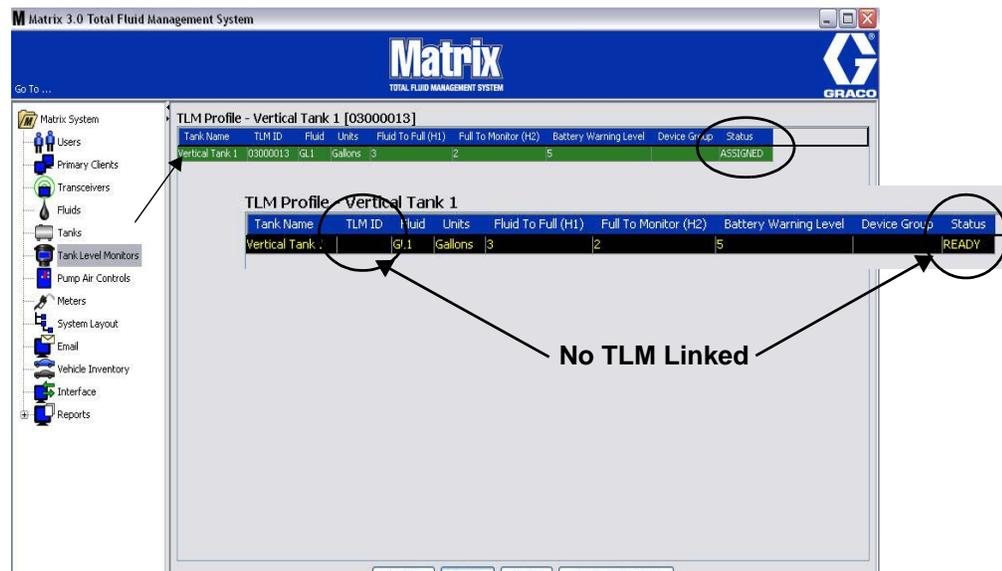

FIG. 122
3. When all fields have been completed, click the OK button on the bottom of the Add TLM Profile Screen. The profile is added to the top of the list. "Assigned" in the Status column confirms the profile is complete. "Ready" will appear in the Status column when the profile is incomplete. Notice in FIG. 122 the TLM ID field is blank indicating a TLM is not linked to Matrix system.